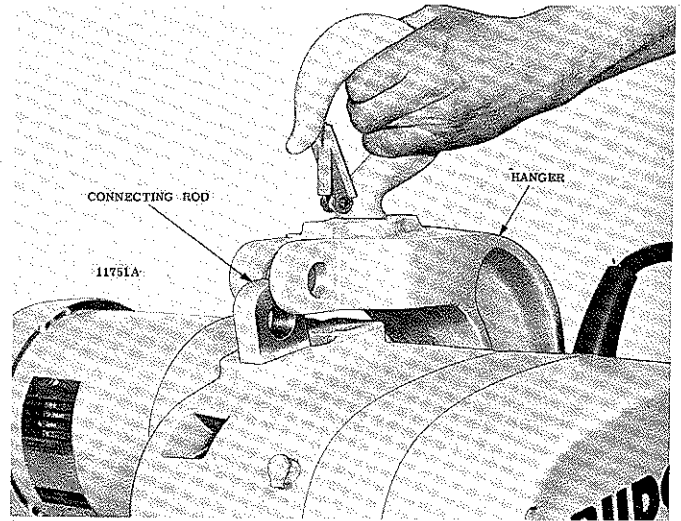
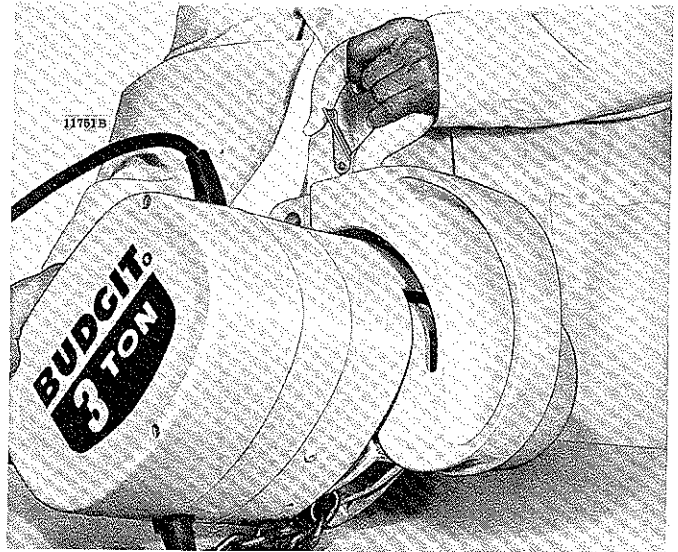
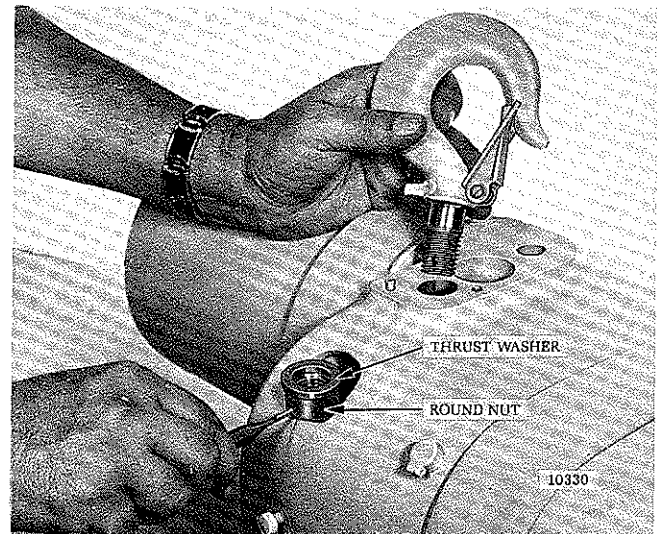

Figure 7-2. 3 Ton Hanger Bracket Connection Pin Removed
Figure 7-3. Removing 3 Ton Hanger Bracket from Hoist Frame
Figure 7-21. Removing Upper Hook and Hook Nut From Hoist Frame (1/4 thru 1 ton models)
(4) To remove 3 ton hanger bracket from hoist, remove retaining ring and connecting rod pin (see figure 7-2). Rotate hoist approximately 45° (see figure 7-3) and hanger will slip free from hoist frame.
(1) On 1/4 thru 1 ton models, drive pin from hook nut using drift punch and unscrew upper hook. Nut is reached thru access hole in side of hoist frame. See figure 7-21.
(3) On 3 ton models, remove retaining ring from connecting rod pin and push connecting rod pin through bracket and connecting rod, releasing hanger (see figure 7-2). Raise hanger above hoist frame to provide access to hook nut. Rotate hook until grooved pin in nut is visible from end of hanger frame. Using a drift punch, drive grooved pin thru hook nut until it hits hanger pocket. Remove drift far enough to hold nut from turning and unscrew hook from nut. Thrust washer will fall free.
(4) To remove connecting rod (figure 7-2) on 3 ton hoist drive pin from rod nut using drift punch and unscrew connecting rod. Nut is reached thru access hole in side of hoist frame. (See figure 7-21).